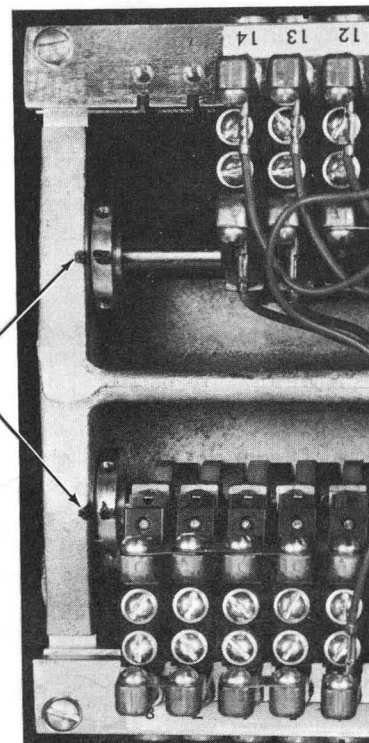

Figure 5-3. PACB Timing Marks
3. Slip the new belt on and reinstall white nylon gear. Be sure timing marks are rematched. NOTE: On the PACB shafts there are two collars; each has a scribed line. There are also two scribed lines on the casting which will coincide with the collar lines at 0° on the punch index (Figure 5-3). Set the two CB shaft lines to line up with the scribed lines on the casting, set the punch index on 0°, then slip the PACB belt over the punch pulley. If care is taken the PACB unit can be tightened and both units will be in time.
(8) Second Stepped Feed Roll Drive Belt